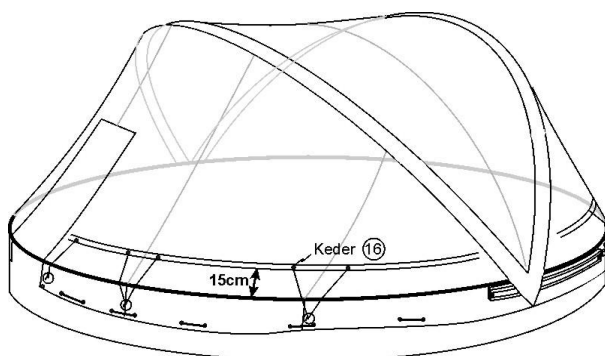
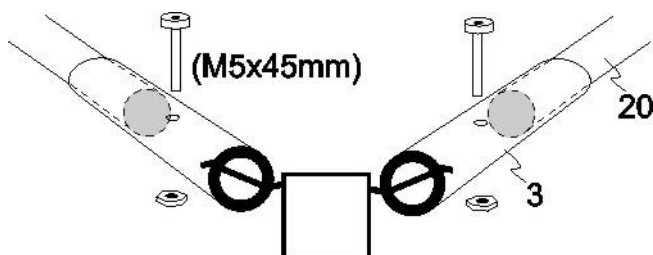

Abb. 9.1
Abb. 9.2
Right positioning of insert tubes (fig. 9.1/9.2)
- If the blue band is less than 15 cm above the swimming pool edge (fig. 9.1), the screws M5x45 must be inserted into insert tubes (3) according (fig. 9.2).
- If the zipper is hard to close due to stress in the foil check if both "C" profiles are in the right positions. If they are, the screws M5x45 must be inserted into insert tubes (3) according (fig. 9.2).
- By the in ground swimming pools screws M5x45 must always be inserted into insert tubes (3) according (fig. 9.2).